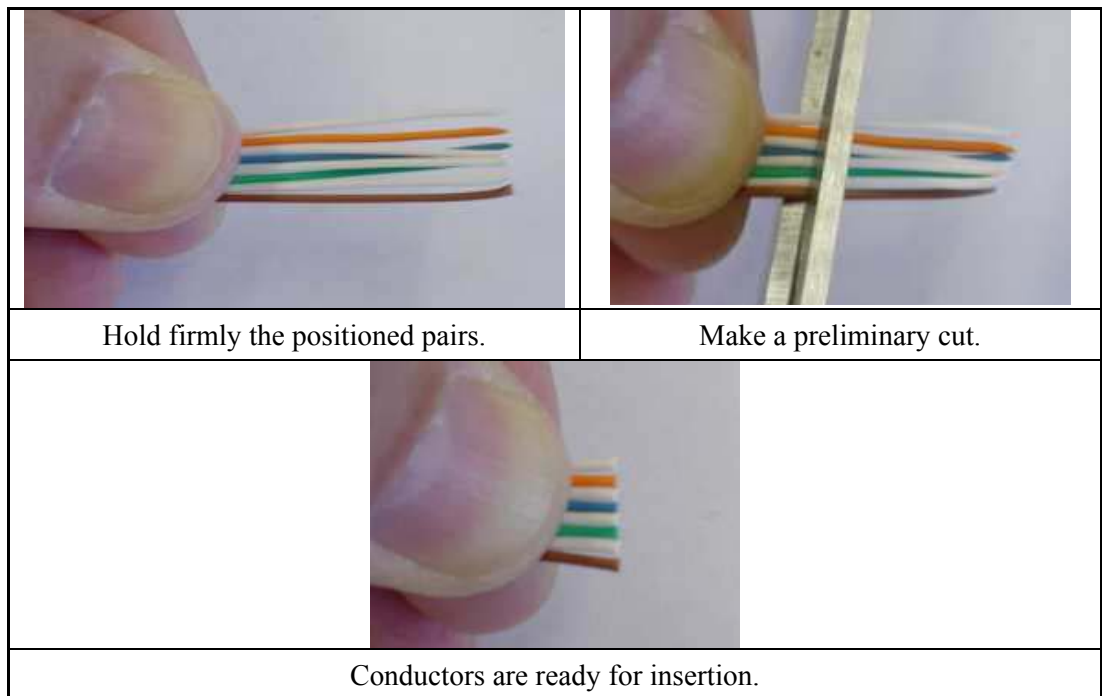

Figure D-11: Cable Positioning, Trim Wires
3. While firmly holding the positioned pairs, make a preliminary cut to the pairs to help the insertion of the conductors into the wire holder, as shown in Figure D-11.